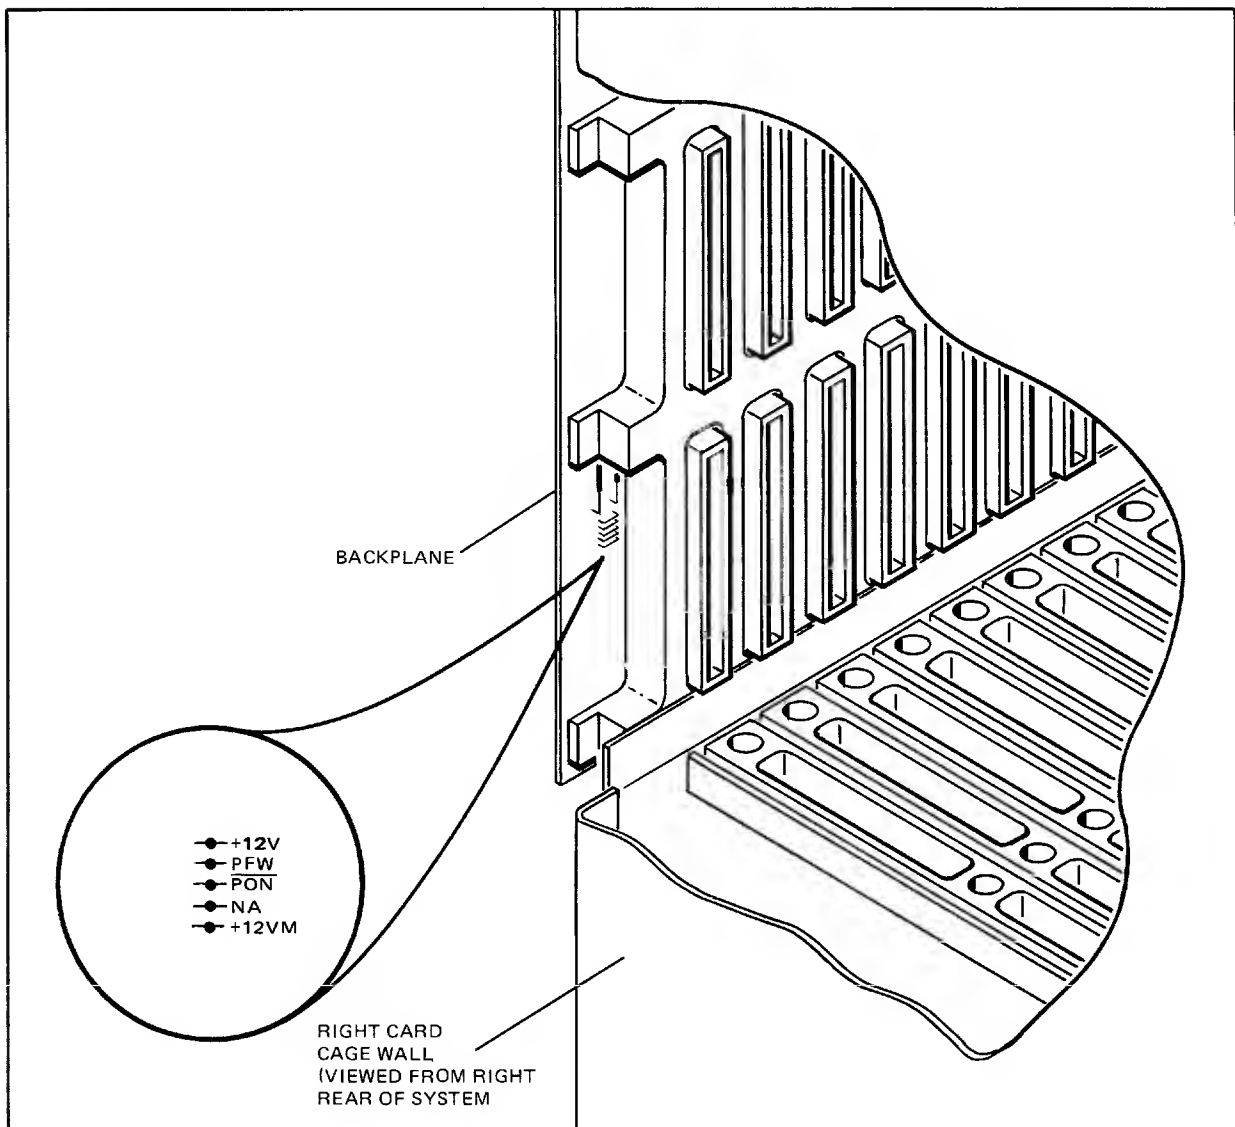

Figure 4-2. Backplane LEDs
- b. The LEDs located on the backplane should light when power is applied to the system. (See figure 4-2.)